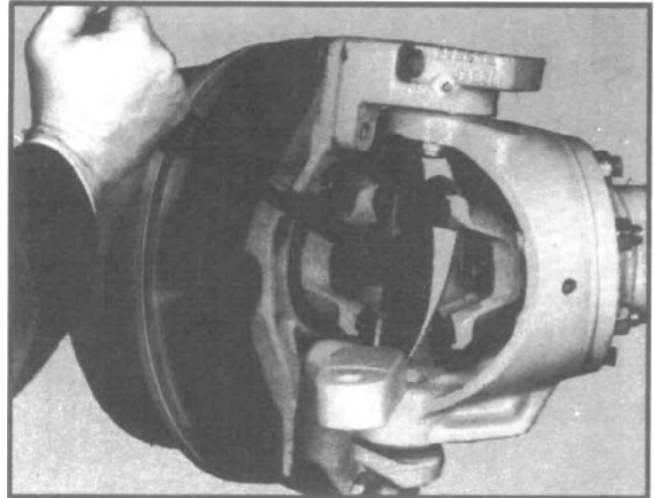

Fig. 14
4. With the end turned to full steering lock, remove the bolt and washer retaining the outer drive yoke. (See fig. 14, Page 9.)
4. With the end turned to full steering lock remove the bolt and washer retaining the outer drive yoke. (See fig. 14).